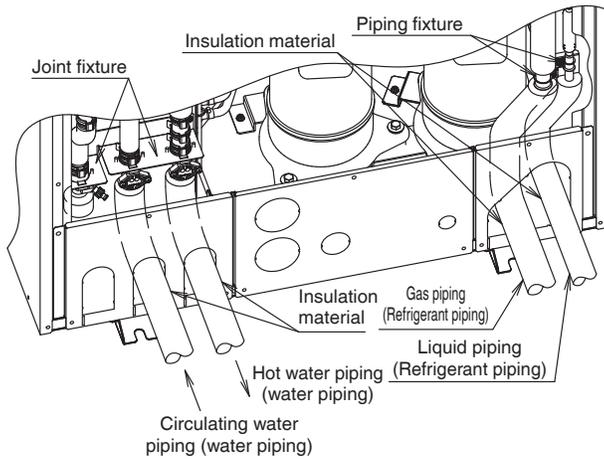

Fig. 30
- In order to protect the wiring from the gas piping which is a high temperature part, insulate the liquid piping and gas piping on the cascade unit side up to the piping fixture inside the unit. (refer to Fig. 30)
- Insulate the circulating water piping and hot water piping on the cascade unit up to the joint fixture inside the unit. (refer to Fig. 30)
<p>CAUTION</p>	<ul style="list-style-type: none"> ● Fig. 30 show examples of the outlet of the heat source unit refrigerant piping. Perform the same procedure for the refrigerant piping and water piping outlet of the cascade unit. ● After punching through the knockout holes, it is recommended to remove burrs, and apply repair paint to the edges and areas surrounding the edges to prevent rust.